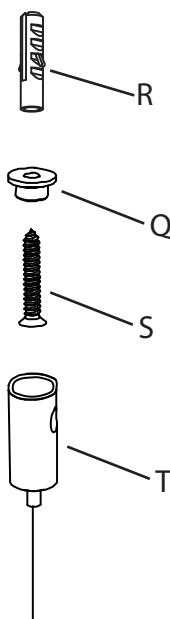

Figure 4
9. Using Figures 4 and 5 as a reference for the position of the cable grippers, install the mounting brackets (Q) to the ceiling with anchors (R) and screws (S), then screw the cable gripper posts (T) in.
5. Twist together the outer braided conductor to form the negative wire of the fixture, then strip 5/8" off the end of the inner stranded conductor to form the positive wire of the fixture (Fig. 4).